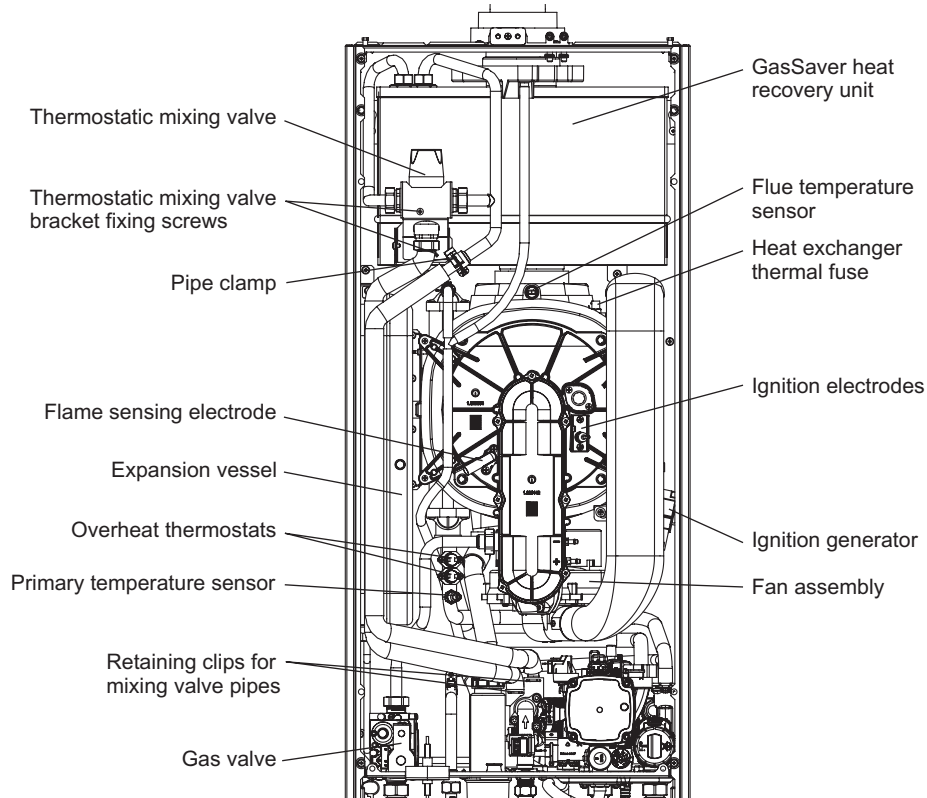

Fig. 7.1
7.3 ELECTRODES - Fig. 7.1
7.6 IGNITION GENERATOR - Fig. 7.1
7.7 OVERHEAT THERMOSTATS - Fig. 7.1
7.8 FLUE TEMPERATURE SENSOR - Fig. 7.1
7.9 GAS VALVE - Fig. 7.1
7.19 PRIMARY HEAT EXCHANGER - Figs. 7.1 and 7.4
3. Unplug the connections from the flue temperature sensor and thermal fuse, see Fig. 7.1.